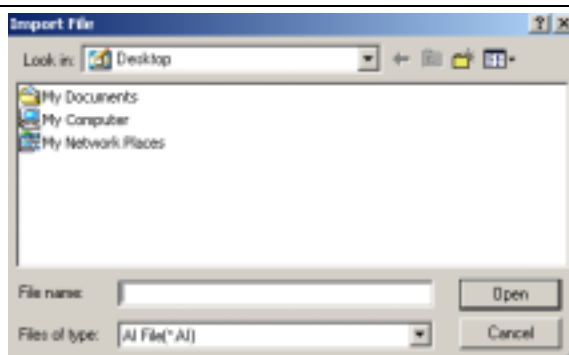

Fig. 12-61
2. Click on the shortcut icon  on Standard Bar or click File->Import command in the menu bar to import an image. The Import file dialog is shown. (Fig. 12-61)